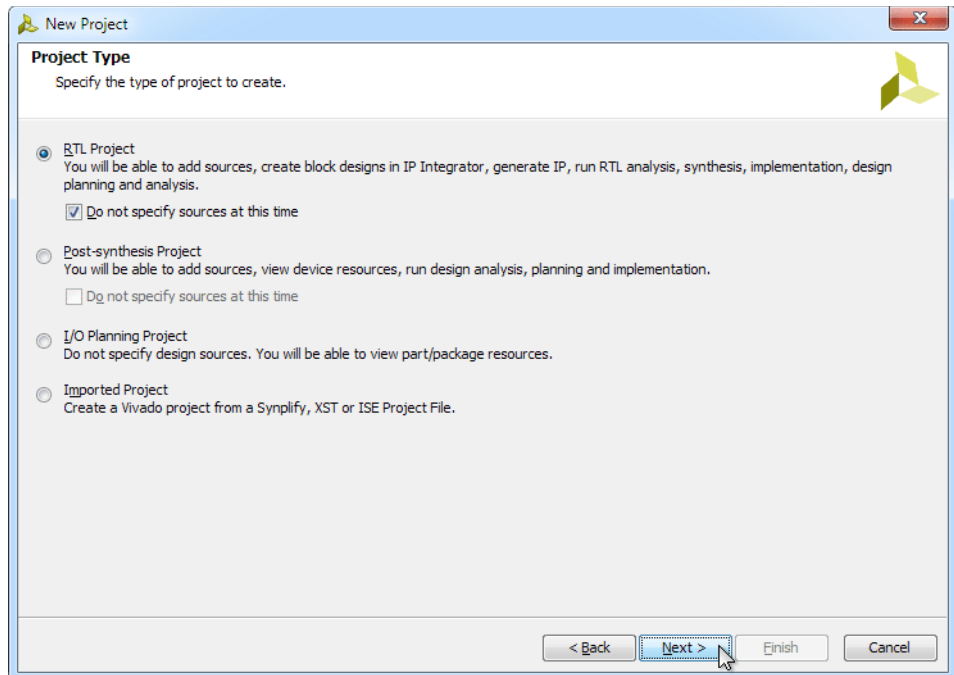

Figure 4: New Project Type
4. Select **RTL Project** to permit running the example design and check **Do not specify sources at this time** (Figure 4). Click **Next**.